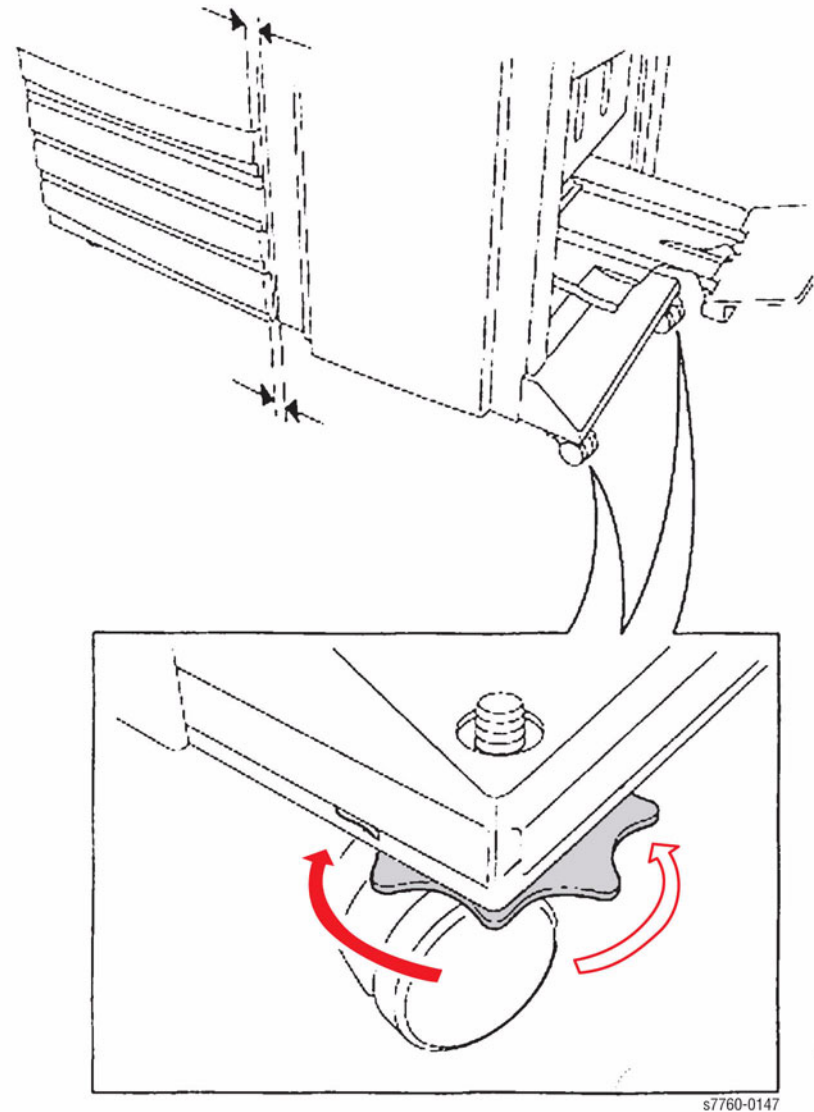

Figure 2 Leveling the Finisher
2. Adjust the Finisher Level so that it is parallel with the Printer (Figure 2).